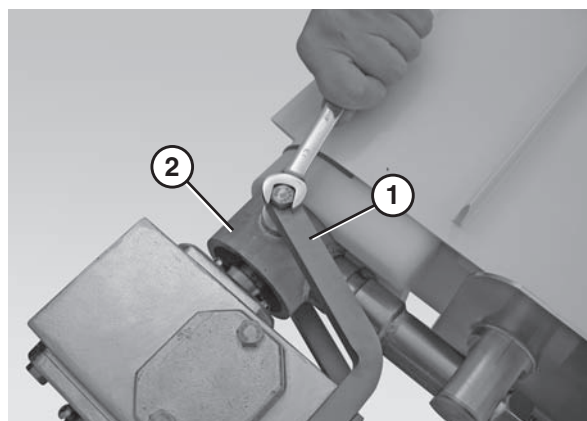

Figure 15
3. Attach the vertical drive bent bars (Figure 15, item 1) to the motor mounting bracket (Figure 15, item 2).